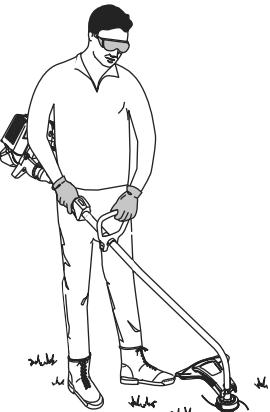

Fig. 11
4. While holding the unit in the operating position (Fig. 11), position the D-handle to the location that provides you the best grip.
Before operating the unit, stand in the operating position (Fig. 11). Check for the following: